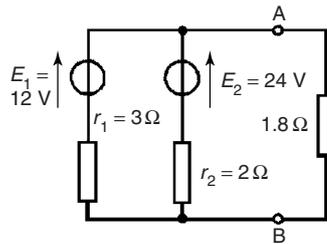
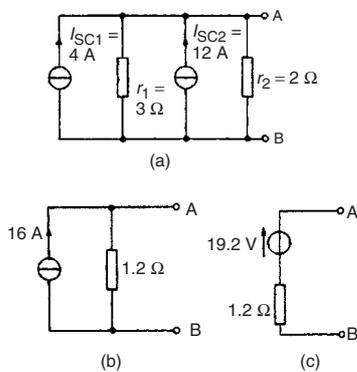

Figure 13.71
Figure 13.72
Problem 20. (a) Convert the circuit to the left of terminals AB in Fig. 13.71 to an equivalent Thévenin circuit by initially converting to a Norton equivalent circuit. (b) Determine the current flowing in the 1.8 Ω resistor.
(a) For the branch containing the 12 V source, converting to a Norton equivalent circuit gives $I_{SC1} = 12/3 = 4$ A and $r_1 = 3$ Ω. For the branch containing the 24 V source, converting to a Norton equivalent circuit gives $I_{SC2} = 24/2 = 12$ A and $r_2 = 2$ Ω. Thus Fig. 13.72(a) shows a network equivalent to Fig. 13.71
From Fig. 13.72(a) the total short-circuit current is $4 + 12 = 16$ A and the total resistance is given by $(3 \times 2)/(3 + 2) = 1.2$ Ω. Thus Fig. 13.72(a) simplifies to Fig. 13.72(b). The open-circuit voltage across AB of Fig. 13.72(b), $E = (16)(1.2) = 19.2$ V, and the resistance 'looking-in' at AB is 1.2 Ω. Hence the Thévenin equivalent circuit is as shown in Fig. 13.72(c).
(b) When the 1.8 Ω resistance is connected between terminals A and B of Fig. 13.72(c) the current